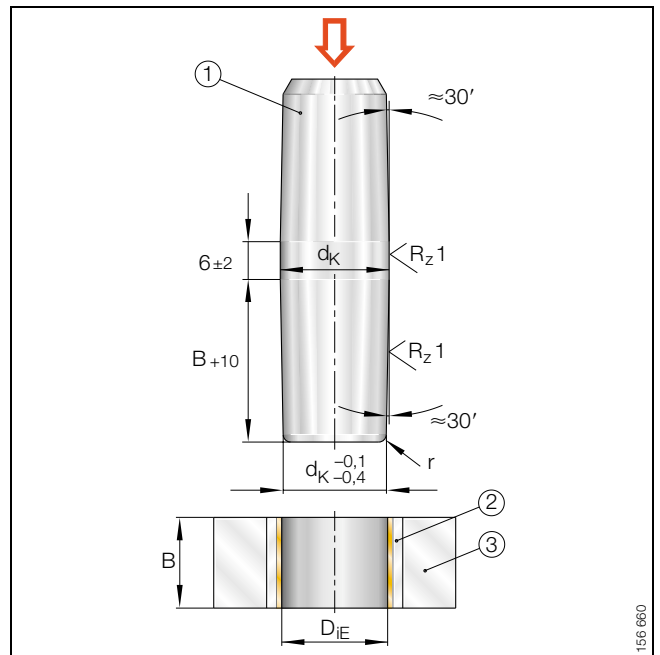

Figure 28 · Sizing
- Figure 28 shows sizing using an arbor